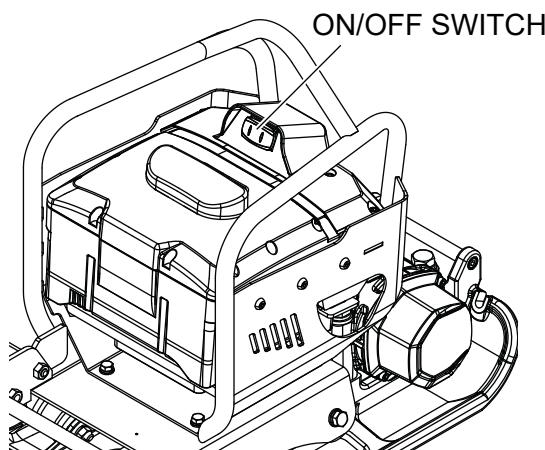

Figure 12. Machine OFF
1. To stop, press OFF on the ON/OFF switch (Figure 12).